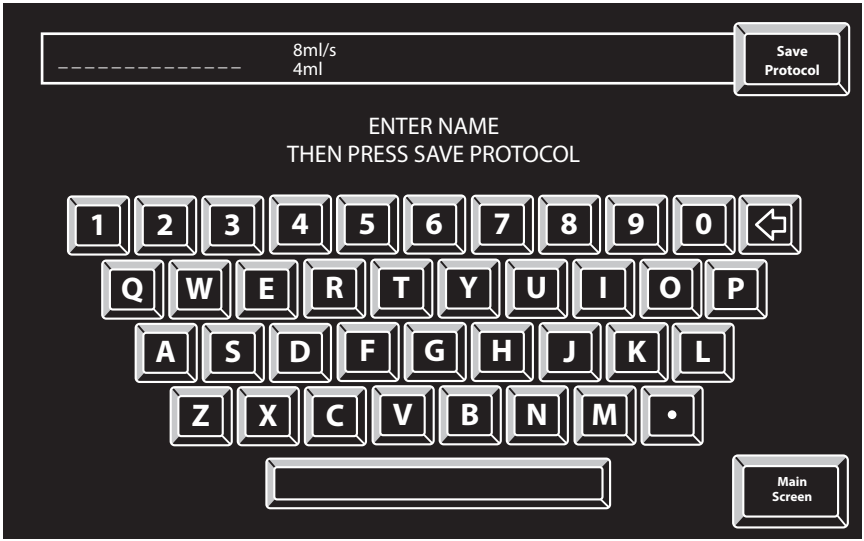

Figure 2-10-8 "Enter Name of Protocol" Screen
3. To store the parameters under a protocol name, press the SAVE AS key. The screen shown in Figure 2-10-8 allows the operator to enter a 14 character name.